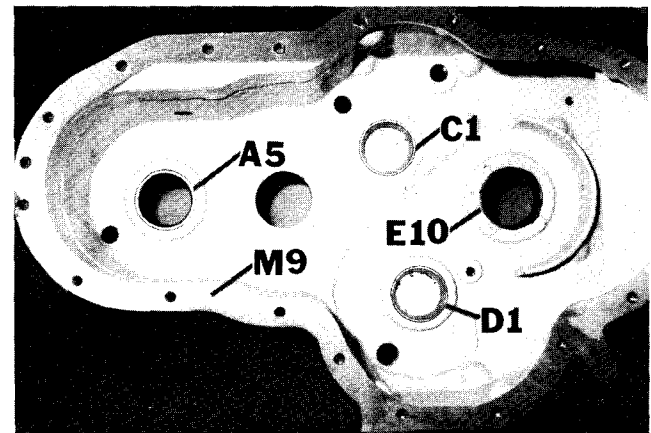

Figure 47
1. Press bearing caps (A-5, C-1, D-1 and E-10) into proper bores in main case (M-9) (Figure 47).